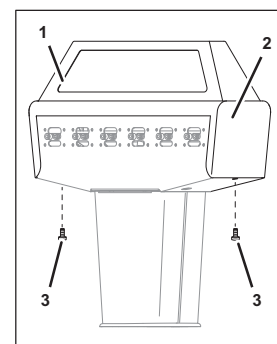

Fig. 22
1. Remove the fastening bolts (Fig. 22/3) from the hood (Fig. 22/2).
2. Lift and remove the hood (Fig. 22/2) with taxi cab hood (Fig. 22/1) from the unit.
12. Position the hood (Fig. 22/2) with taxi cab hood (Fig. 22/2) on the unit.
13. Attach the hood (Fig. 22/2) using the fastening bolts (Fig. 22/3).